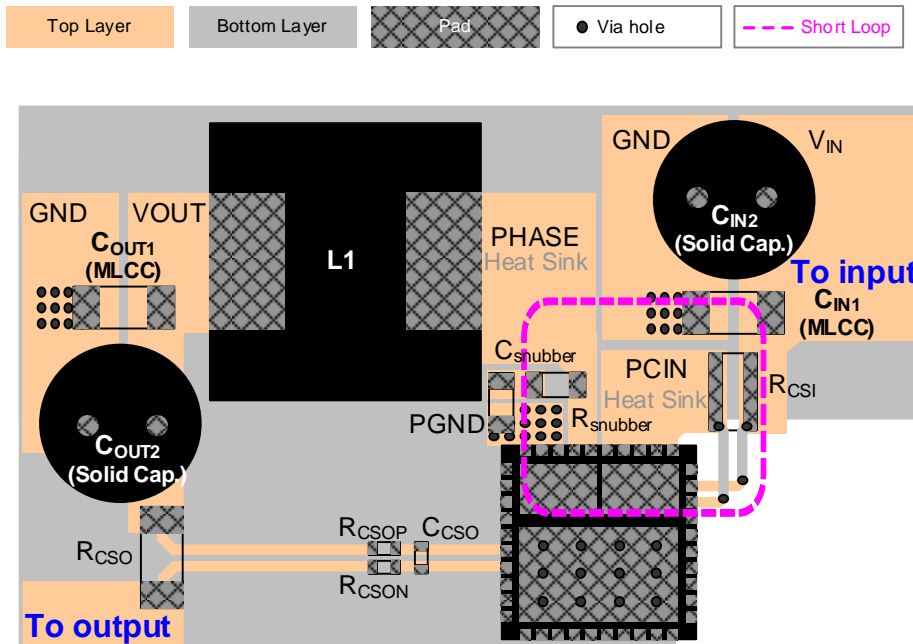

Figure 7. Recommended PCB Layout of the Power Stage
- Figure 7 is a recommended power component placement of the PWM Buck power-stage. For better EMI performance, the power loop “CIN1 → RCS1 → Internal Buck MOS → PGND to CIN1” must be as short as possible to minimize the switching noise. It is necessary to place several MLCCs (CIN1, 10 to 0.1μF/50V, X5R/X7R) close to RTQ7883B-QT to absorb high frequency switching EMI noise. For reducing the input and output voltage ripples during heavy load operation, it is recommended to add more MLCCs or solid capacitor for input and output capacitors. Moreover, the RTQ7883B-QT integrated buck power MOSFETs, it needs PCIN and PHASE PCB areas as heat sink for high-side and low-side MOSFETs heat dissipation.